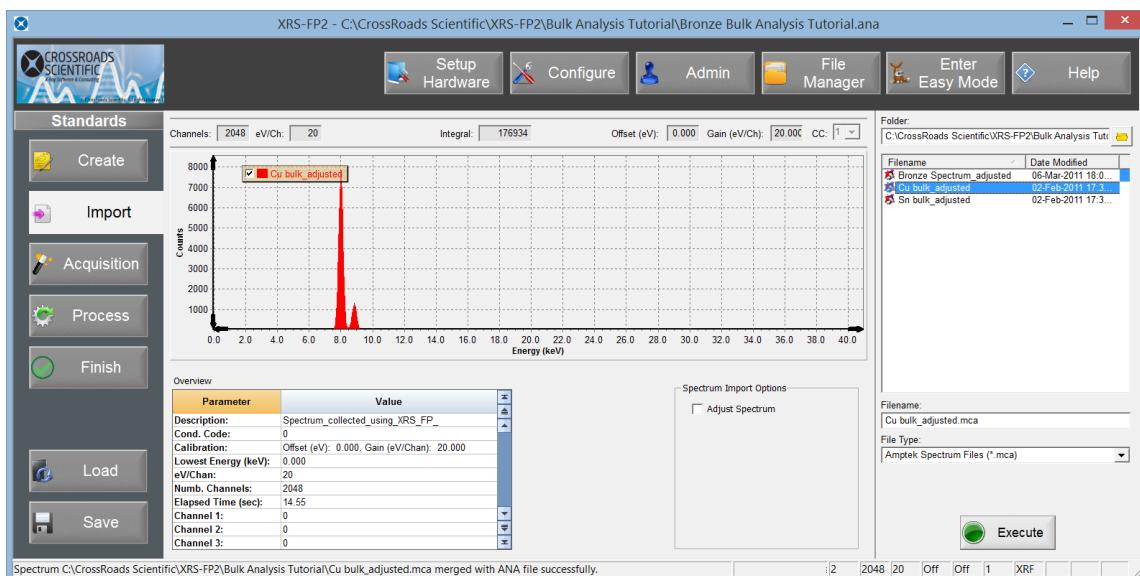

Figure 21. XRS-FP2 Standards Workflow – Import. Import the spectrum for the pure bulk Cu standard.
9. Click on the **Import** button and select the “Cu Bulk_adjusted.mca” file to import for our pure bulk Cu standard spectrum. Click the **Execute** button in the R-hand panel to import the file. See Figure 21 below. Note that you have the option of importing standard spectra or acquiring spectra from standards for calibration. For the later, select the **Acquisition** button in the Standards workflow.